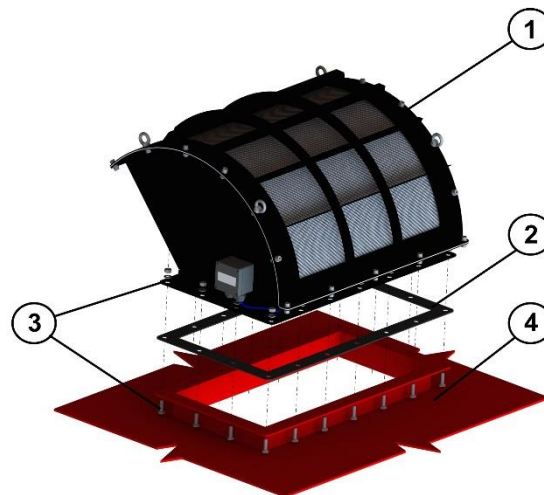

Fig. 12 - The Exploded View of the Rectangular FLEX (1 - FLEX, 2 - flange gasket, 3 - fasteners, 4 - protected technology)
- b) **The flange packing** (gasket) must be used between the flange of the protected device and the membrane, which is sealed to the flange of the FLEX device. This gasket can be supplied by the company RSBP spol. s.r.o. according to parameters fit for the particular installation. However, the customer can get it by himself/herself. The gasket is shown in fig. 12 and 13. The gasket supplied by the company RSBP spol. s. r. o. is made of the EPDM material, which can be used in all common applications with the ambient temperature between $-40\text{ }^{\circ}\text{C}$ to $80\text{ }^{\circ}\text{C}$ all the time. For the application with special requirements for the features of the gasket, we can supply the gasket made of the material that meets the requirements. In the event that the operator decides to use his/her own gasket, neither the supplier nor the manufacturer is responsible for the problems related to the its inappropriate selection.
The figures 12 a 13 show the exploded view of the entire assembly system.